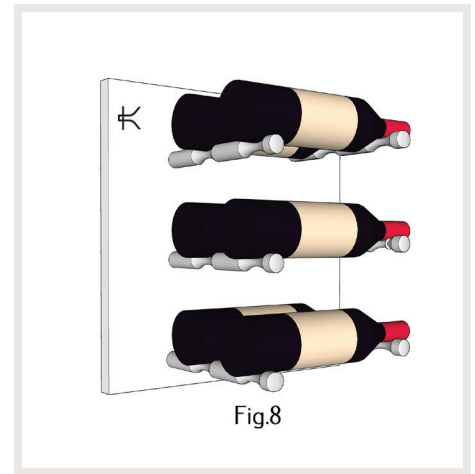

Fig.8
12. Stock your new Wine As Art WinePanel™ with wine and enjoy. ***Fig8**